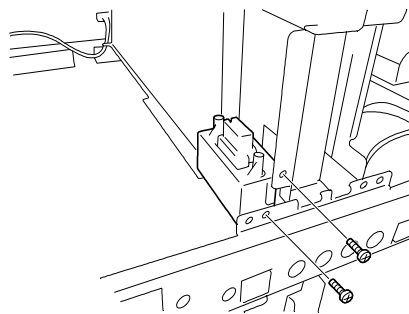

Figure 4-23. Reconnecting the Front Fan Module Connector
- 13.** Reconnect the front fan module connector to the BSU chassis with two screws supplied with the upgrade kit, see Figure 4-23. This front fan module connector was disconnected in step 7.